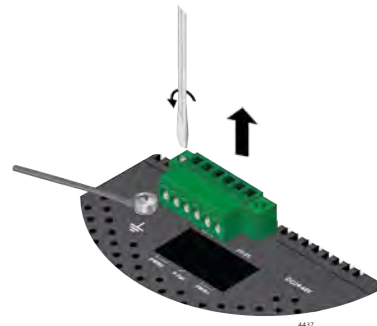

Figure 42. Remove Power/Alarm Connector
4. Remove the power/alarm connector from the top panel. Figure 42 shows the removal of this connector.